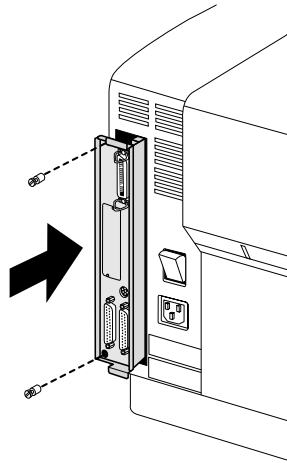

Fig. 8.13 *Reinstall the Controller Board*
1. Using both hands, carefully reinsert the controller board (fig. 8.13) making sure the controller board is properly seated in its connectors.
2. Retighten the two mounting screws you loosened previously (fig. 8.13).